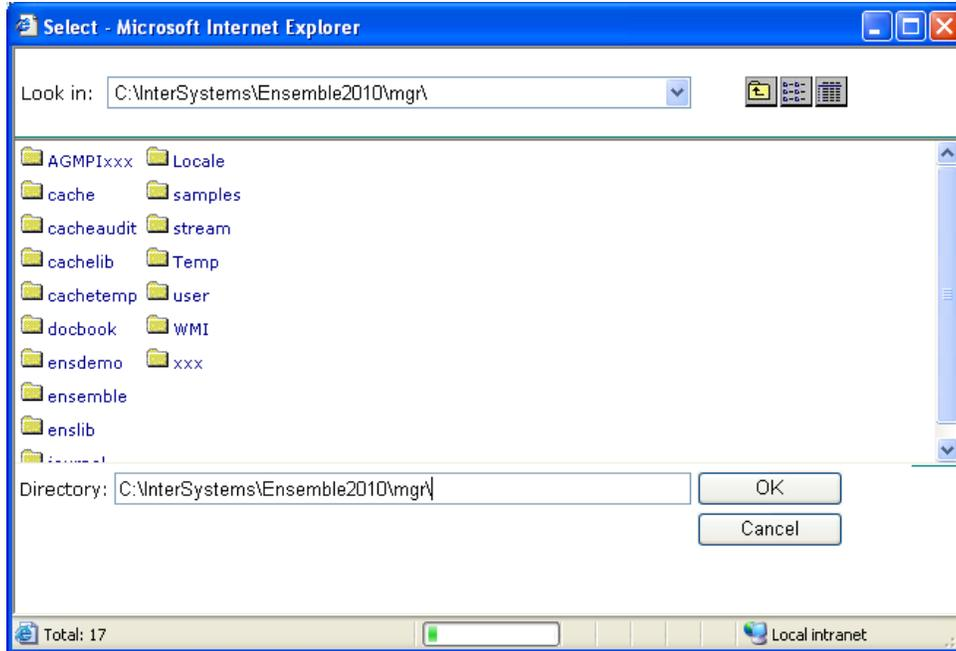

Figure 4-8: Selecting the correct database directory in the Select window
9. Click **Browse...** to open the **Select** window, as shown in Figure 4-8.